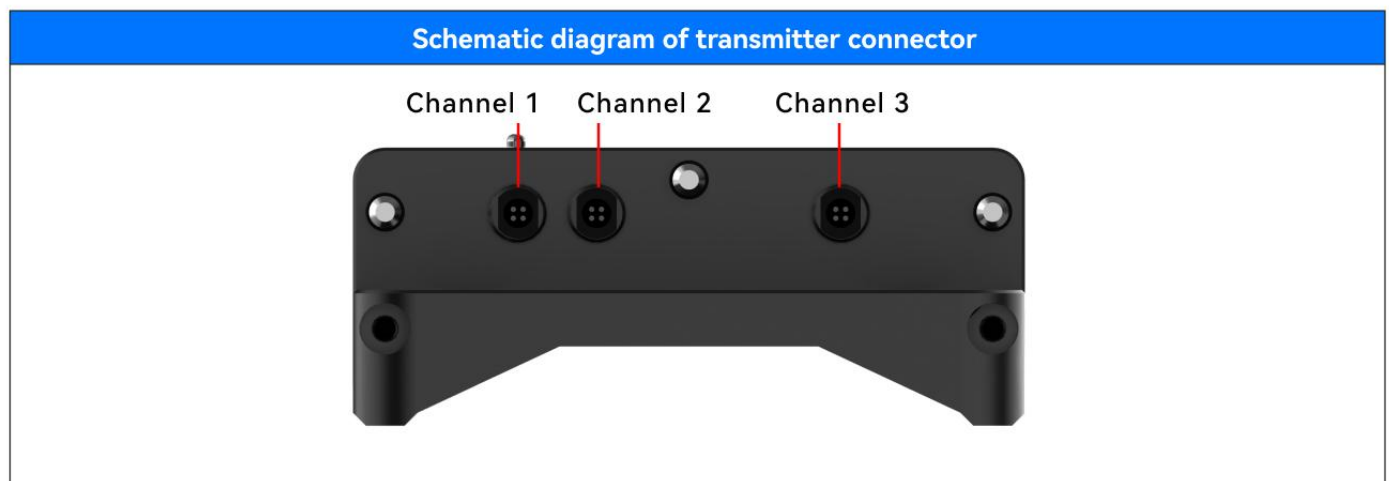

Figure 3.4
2. Connect the strain gauge simulator to the transmitter unit by inserting the cable into the center-aligned transmitter connector in 3 channels, as shown in Figure 3.4.